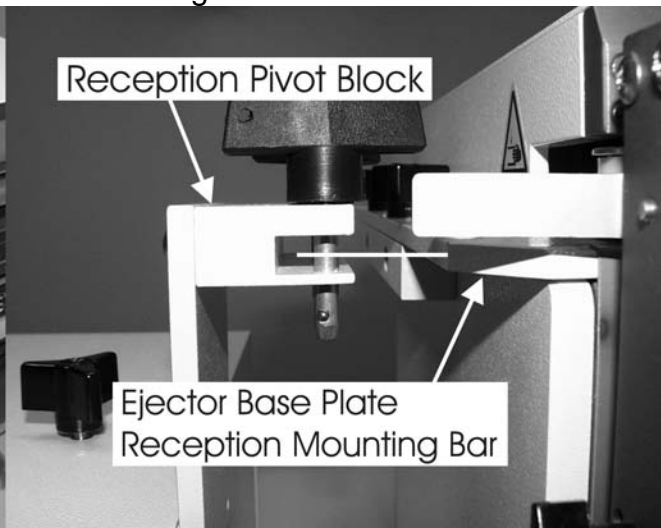

Fig. G1
- Move the APES-14-77 Reception Assembly next to the HD punch. See Figure G. Note that the *Reception Pivot Block* will align centered about the *Ejector Top Plate Reception Mounting Bar* as shown. See Figure G1.